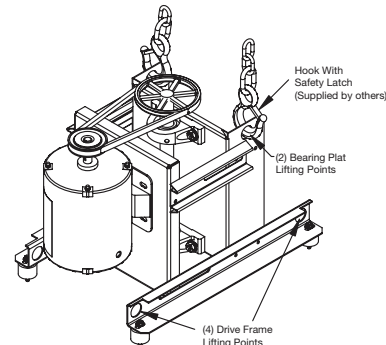
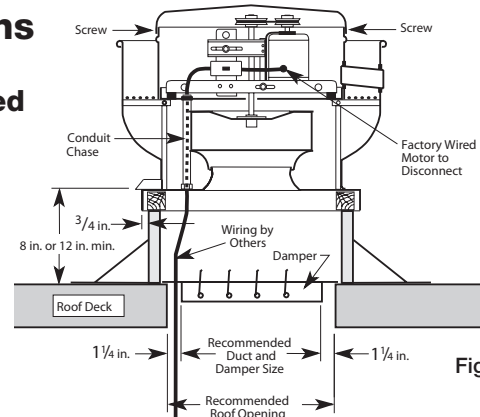
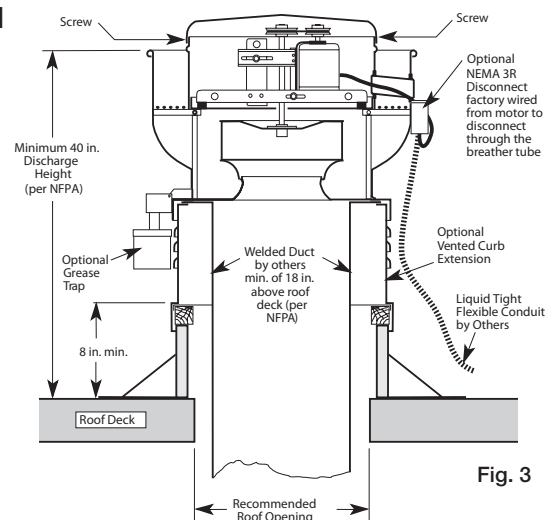
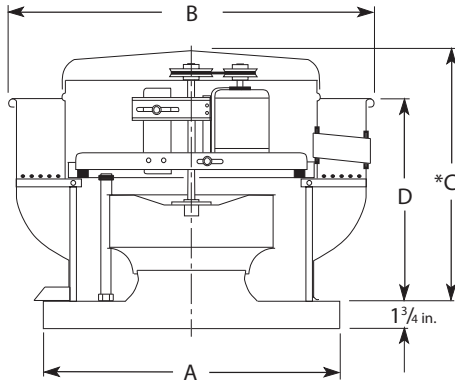

Fig. 1
Fig. 2
Fig. 3
Fig. 4
When lifting unit on to roof, use either the (4) lifting points on the drive frame or the (2) lifting points on the bearing plate if present. Refer to Fig. 1 for lifting points. Access to the drive frame is accomplished by removing the screws pointed out in Fig. 2 and Fig. 3. The cover can then be removed and placed on a flat surface in an area protected from strong winds. Move fan to desired location using lifting points and fasten securely through mounting holes in base. Shims may be necessary depending upon roofing material thickness. For model dimensions refer to the diagram and Fig. 4 on page 2.